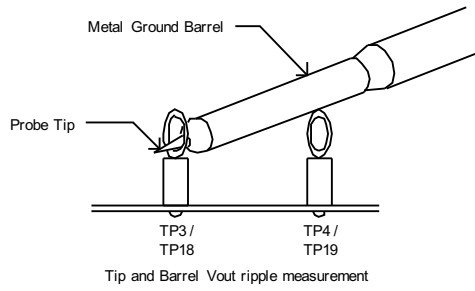

Figure 4-2. Tip and Barrel Measurement Technique (output ripple measurement using TP3 and TP4 or TP18 and TP19)
TPS54386EVM provides two test points for measuring the voltage generated by the module. This allows the user to measure the actual module output voltage without losses from output cables and connectors. All output voltage measurements should be made between TP3 and TP4. To use TP3 and TP4, connect a voltmeter positive terminal to TP3 and negative terminal to TP4. For Output ripple measurements, TP3 and TP4 allow a user to limit the ground loop area by using the Tip and Barrel measurement technique shown in Figure 4-2. All output ripple measurements should be made using the Tip and Barrel measurement.
TPS54386EVM provides two test points for measuring the voltage generated by the module. This allows the user to measure the actual module output voltage without losses from output cables and connector losses. All output voltage measurements should be made between TP18 and TP19. To use TP18 and TP19, connect a voltmeter positive terminal to TP18 and negative terminal to TP19. For output ripple measurements, TP18 and TP19 allow a user to limit the ground loop area by using the Tip and Barrel measurement technique shown in Figure 4-2. All output ripple measurements should be made using the Tip and Barrel measurement.
VIN: The input voltage source (VIN) should be a 0-15 V variable dc source capable of 5 A_{DC}. Connect VIN to J1 as shown in Figure 4-2.
Oscilloscope: A digital or analog oscilloscope can be used to measure the ripple voltage on VOUT. The oscilloscope should be set for 1-M Ω impedance, 20-MHz bandwidth, ac coupling, 1- μ s/division horizontal resolution, 10-mV/division vertical resolution for taking output ripple measurements. TP3 and TP4 or TP18 and TP19 can be used to measure the output ripple voltages by placing the oscilloscope probe tip through TP3 or TP18 and holding the ground barrel to TP4 or TP19 as shown in Figure 4-2. For a hands free approach, the loop in TP4 or TP19 can be cut and opened to cradle the probe barrel. Using a leaded ground connection may induce additional noise due to the large ground loop area.
4. Connect oscilloscope probe to TP3 and TP4 or TP18 and TP19 as shown in Figure 4-2.